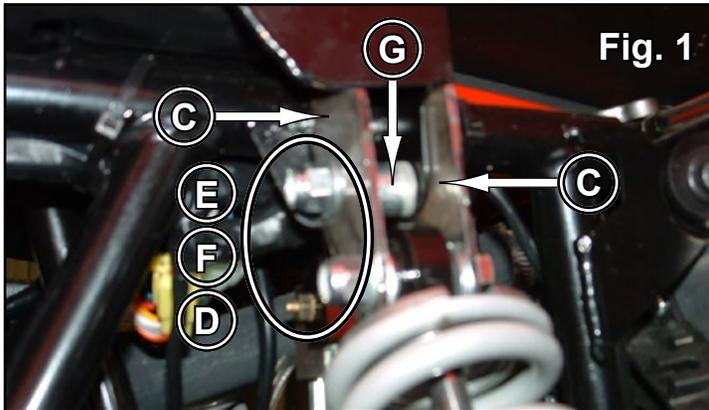

Fig. 1
3. Install Front Brackets (C), to Frame, with M10-1.5 x 50mm Lg. HHCS (F), M10 Flat Washers (E), Spacers (G), and M10-1.5 Nylock Nuts (D). See Fig. 1.
4. Reinstall shocks, into Front Brackets (C), with M10-1.5 x 50mm Lg. HHCS (F), M10 Flat Washers (E), and M10-1.5 Nylock Nuts (D). See Fig. 1. Tighten all hardware completely and reinstall Wheels.